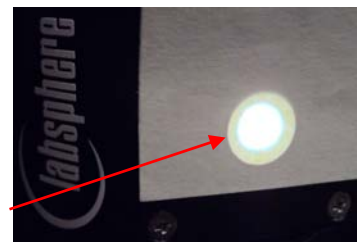

Figure 26: Lamp beam alignment
To align the beam, first place the sphere assembly with its instrument mount on a padded table top. Orient the assembly as shown in Figure 25 below. In this position, the pairs of fasteners that control the collimating Lens position, Aperture position, and Filament centering (fastener callouts in Figure 24: Lamp assembly components Figure 26) are more easily accessible in pairs.
If it is necessary to replace a missing alignment fastener, use the following table. Please refer to the fastener callouts on Figure 26 to identify each. These fasteners are all of type stainless steel (SS) Socket Head Cap Screws (SHCS). **Do not substitute, use only the fasteners listed or damage may occur.**